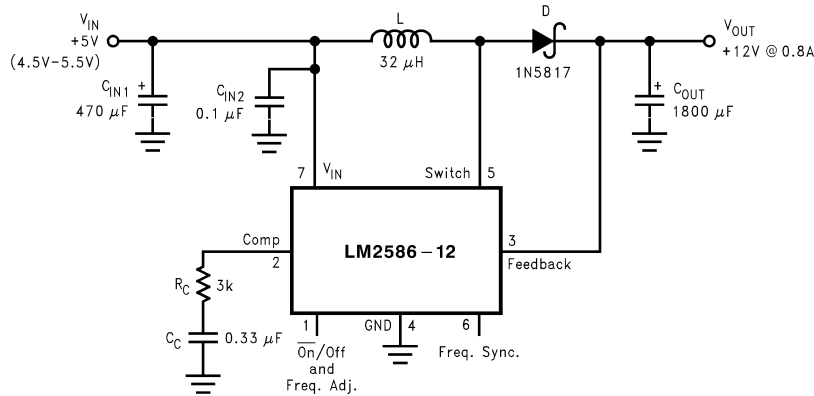
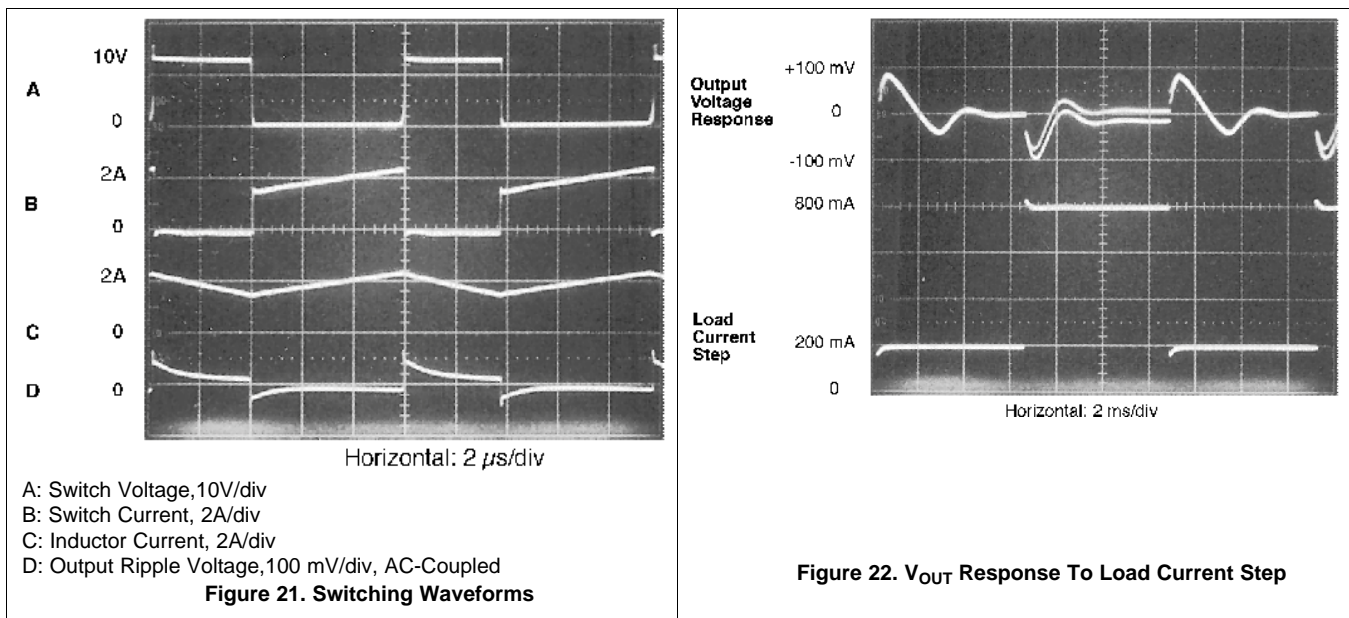

Figure 20. 12-V Boost Regulator
Figure 21. Switching Waveforms
Figure 20 shows the LM2586 used as a step-up (boost) regulator. This is a switching regulator that produces an output voltage greater than the input supply voltage.
A brief explanation of how the LM2586 boost regulator works is as follows (refer to Figure 20). When the NPN switch turns on, the inductor current ramps up at the rate of V_{IN}/L , storing energy in the inductor. When the switch turns off, the lower end of the inductor flies above V_{IN} , discharging its current through diode (D) into the output capacitor (C_{OUT}) at a rate of $(V_{OUT} - V_{IN})/L$. Thus, energy stored in the inductor during the switch on time is transferred to the output during the switch off time. The output voltage is controlled by adjusting the peak switch current, as described in .
By adding a small number of external components (as shown in Figure 20), the LM2586 can be used to produce a regulated output voltage that is greater than the applied input voltage. The switching waveforms observed during the operation of this circuit are shown in Figure 21. Typical performance of this regulator is shown in Figure 22.